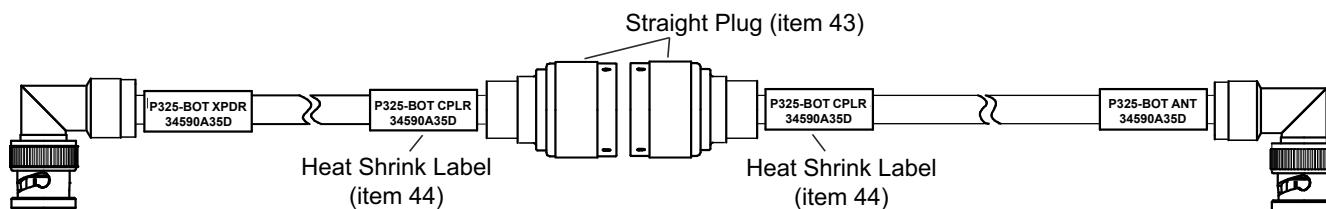

Figure 11.
9.17. Repeat the steps 9.10 to 9.16 for the bottom antenna coaxial cable (item 12), and existing transponder coupler. Refer to AMM Section 92-00 and Figure 11.